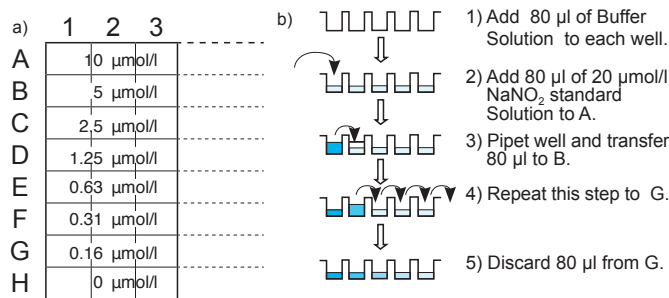

Figure 2. A plate arrangement for preparation of a standard curve.
- 1) Dilute 80 μl of 20 μmol/l NaNO2 Standard Solution by serial dilution with 80 μl of Buffer Solution (or medium) in 96-well plate as indicated in Figure 2.
- 1) Dilute 80  $\mu\text{l}$  of 20  $\mu\text{mol/l}$   $\text{NaNO}_3$  Standard Solution by serial dilution with 80  $\mu\text{l}$  of Buffer Solution (or medium) in 96-well plate as indicated in Figure 2.